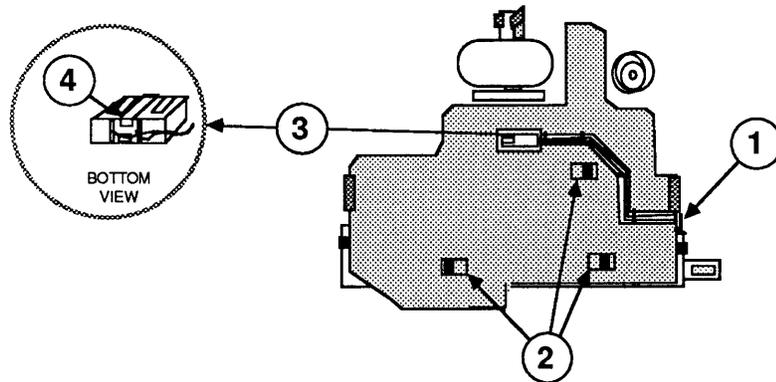

FIGURE 8
8. Remove the color ribbon selector wires from the plastic clamp (Figure 8, #1) by gently prying the clamp away from the carrier assembly.
9. Using a jeweler's flathead screwdriver, push the tabs toward the center of the ribbon plate (Figure 8, #2).
11. Lay the ribbon plate upside down to remove the color ribbon detect switch (Figure 8, #3). Do not remove the switch unless replacing the ribbon plate.
12. Insert a jeweler's flathead screwdriver under the tab on each side of the detect switch (Figure 8, #4).